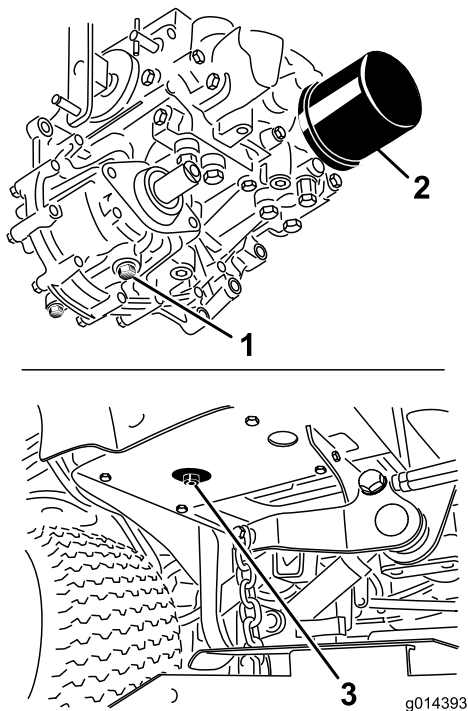

Figure 90
- Place a large pan under the hydraulic reservoir and transmission case and remove the plugs, draining all of the hydraulic fluid (Figure 90).
- Clean the area around the hydraulic-fluid filter and remove the filter (Figure 90).